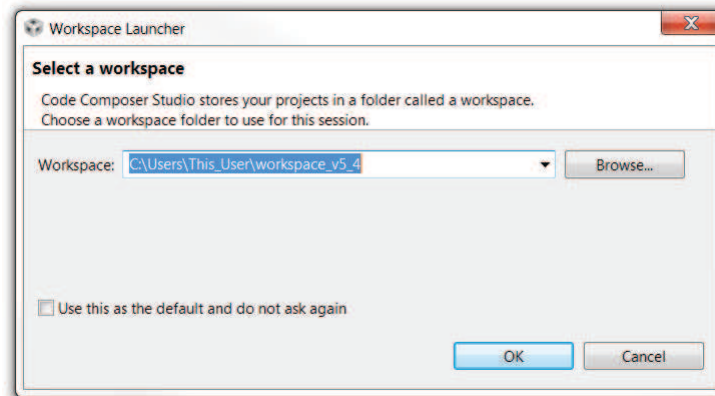

**Figure 21. Firmware Setup Complete**
- Step 10. Click the *Finish* button when the files are successfully installed in the destination folder (see Figure 21).